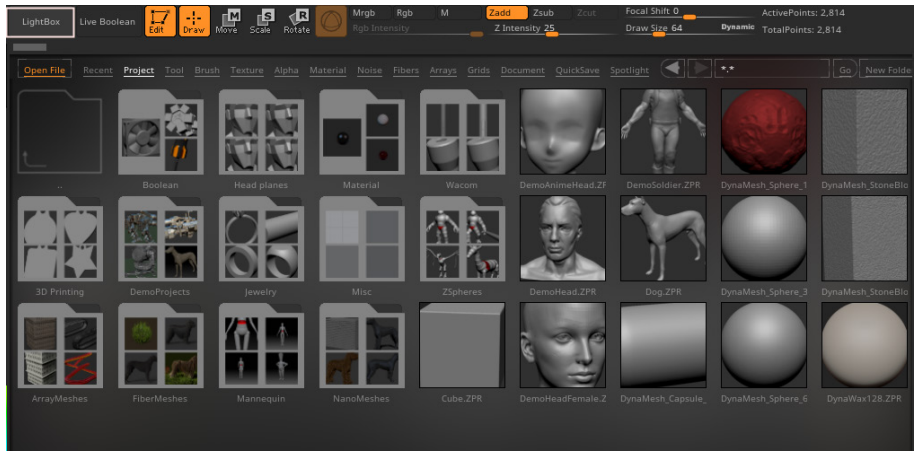
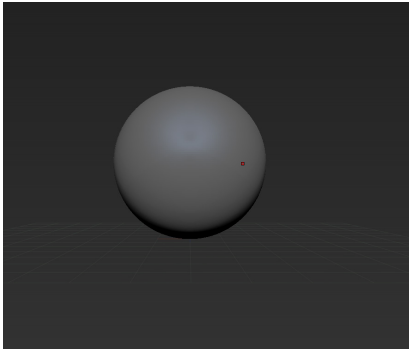

Figure 3-44 The *DefaultSphere.ZPR* file chosen from the *LightBox* browser
Figure 3-45 The *DynaMesh_Sphere_3* model created on the canvas
2. Double-click on **DynaMesh_Sphere_3.ZPR** in the **Project** tab of the LightBox browser; refer to Figure 3-44. The sphere is created on the canvas, as shown in Figure 3-45.